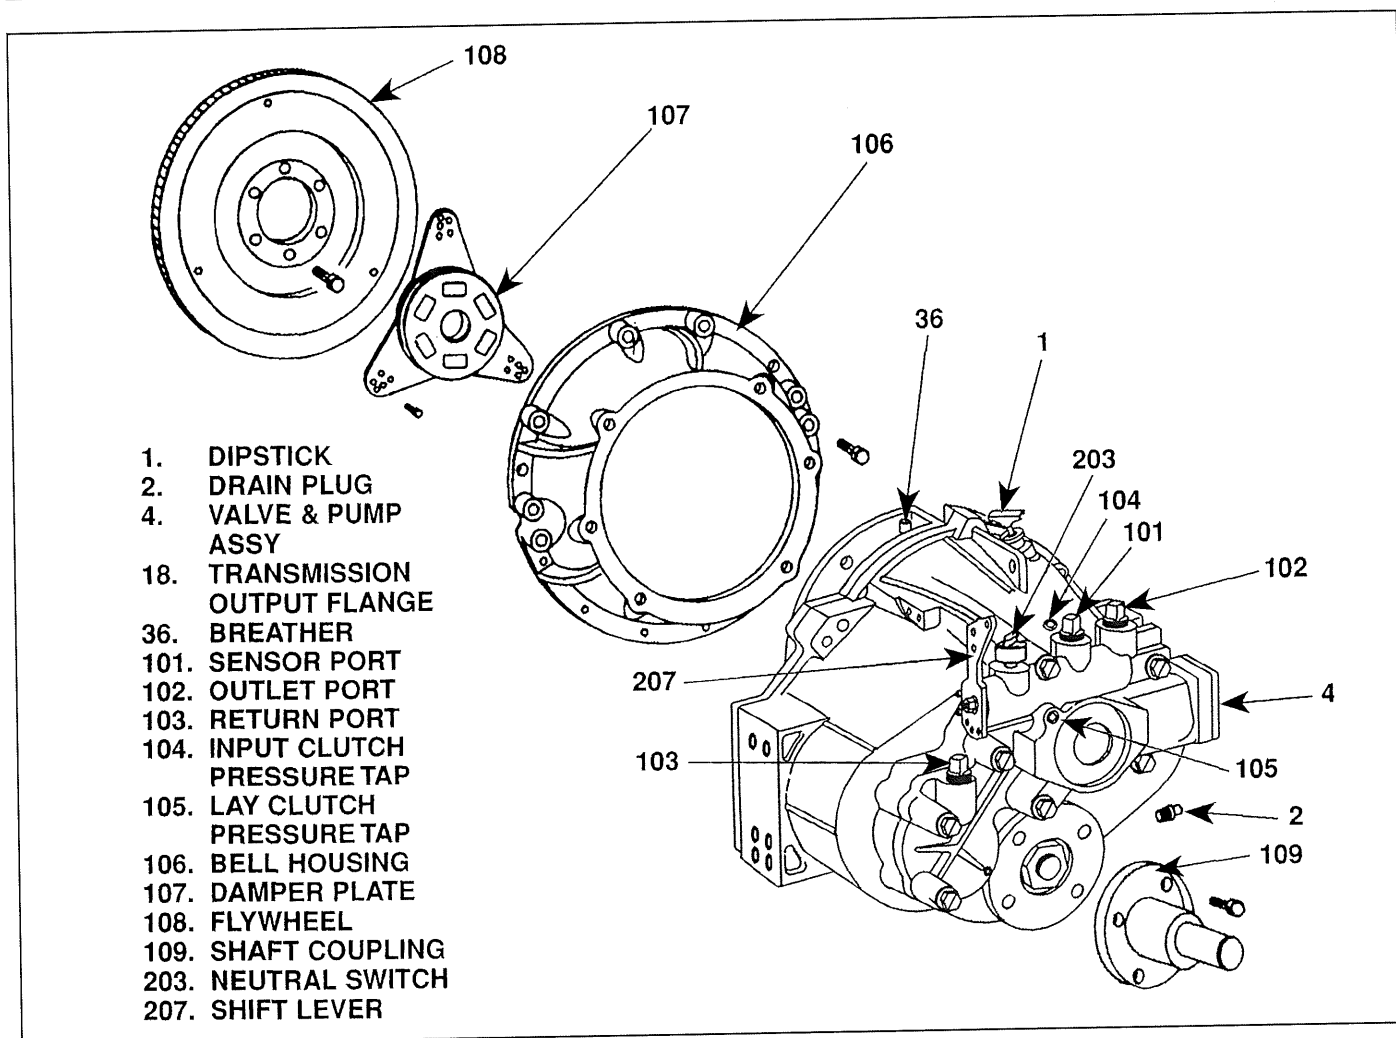

Figure 2-2: Transmission Installation
1. Place a suitable container near the oil (fluid) cooler return port (103) (see figure 2-2).
3. Remove the dipstick (1) as described in paragraph 2-6.
4. Place a suitable container under the transmission and remove the drain plug (2). Drain all fluid from the transmission and install the drain plug. Torque plug to 20-45 lb-ft (27-34 Nm)
2-17 TORSIONAL VIBRATION The delivery of power from a piston engine is not smooth but rather comes in pulses. The engine flywheel uses inertia to smooth out some but not all pulsation. That remaining pulsation is called torsional vibration. In marine applications a damper plate (107, figure 2-2) is used to absorb the torsional vibration by compressing and relaxing a system of springs. The damper must be selected carefully. If its springs are inadequate for the application, damage to the transmission and damper plate itself will result. Proper damper selection is the responsibility of the boat manufacturer, or whoever matches the engine and transmission to the application—not Velvet Drive. Velvet Drive is not responsible for torsional vibration or any resulting damage to the transmission or other power train components.